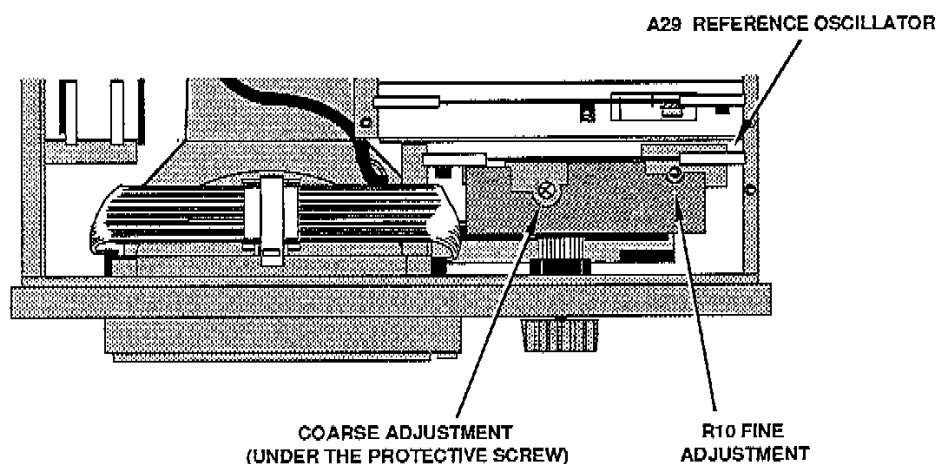

Figure 3-9. Reference Oscillator Adjustment.
7. Adjust the Fine Reference Oscillator adjustment, R10, to stabilize the waveform on the test oscilloscope (see Figure 3-9).
If the range of R10 is insufficient, mid-range R10 and adjust the coarse adjustment. See Figure 3-9.